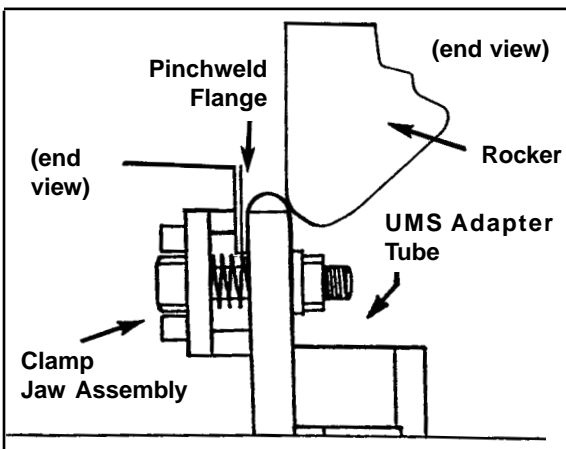

Figure 11
6. Lower entire side of vehicle to engage pinchweld in the clamp jaws. (See Figure 11.) Then tighten clamp jaw bolts.